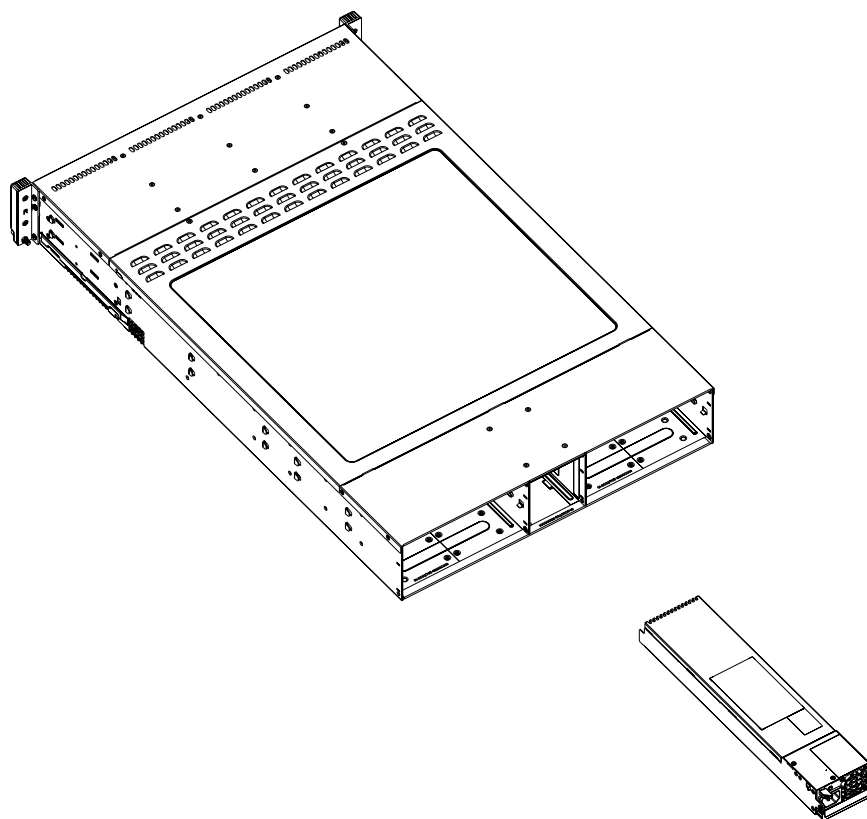

Figure 6-5 Power Supply Removal Example
3. Pull it straight out using the rounded handle, see Figure 6-5 on page 54 for an example.